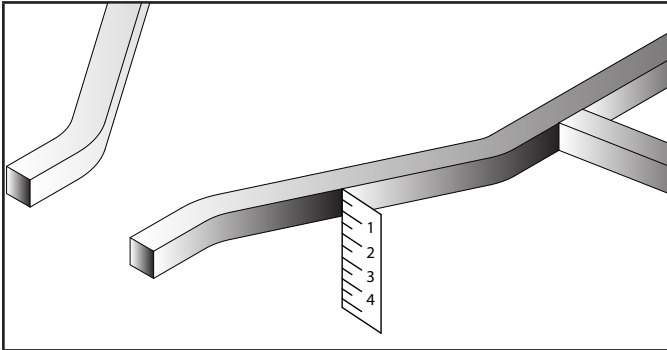

Figure 23 - Frame Measurement
1. Measure the thickness of your tube frame and skid plate (if installed), see Figure 23. Then cut the provided rubber spacers to a 1/4 in. (6.4 mm) longer than the thickness of the tube frame.